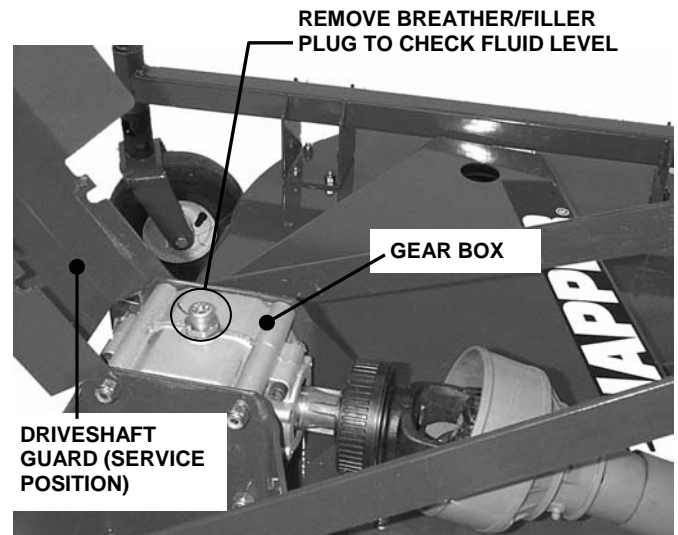

FIGURE 2
**A. Gear Box Fluid.** The gear box holds 20 fluid ounces of SAE 90 EP gear lubricant. To check the level, remove the breather/filler plug located on the top of the gear box. If lubricant is needed, the driveshaft guard covering the gear box will have to be removed. Add fluid as needed to fill. Install breather/filler plug and driveshaft guard. See Figure 2.